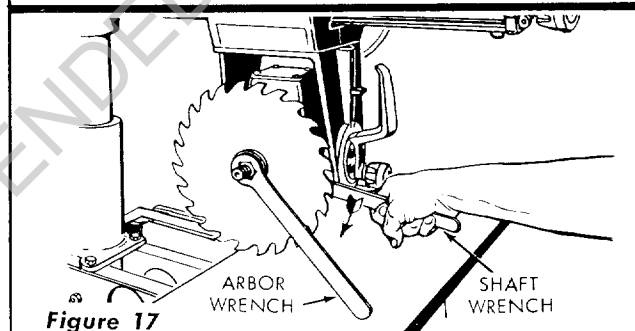

Figure 17
- Place the box end of arbor shaft wrench on shaft nut. (See figure 17.) Allow end of wrench to rest on saw table.
- Use open end of shaft wrench on "flats" of motor shaft and tighten the shaft nut by pushing downward, as shown in figure 17.